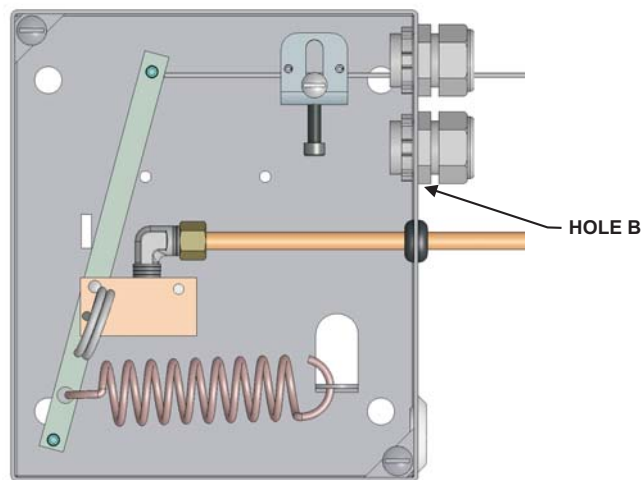

Figure 4-45. Single SPDT Microswitch Installation
2. Connect 1/2-inch (13 mm) EMT to hole "B" on the side of the KRS-50 Control Box (Figure 4-45).